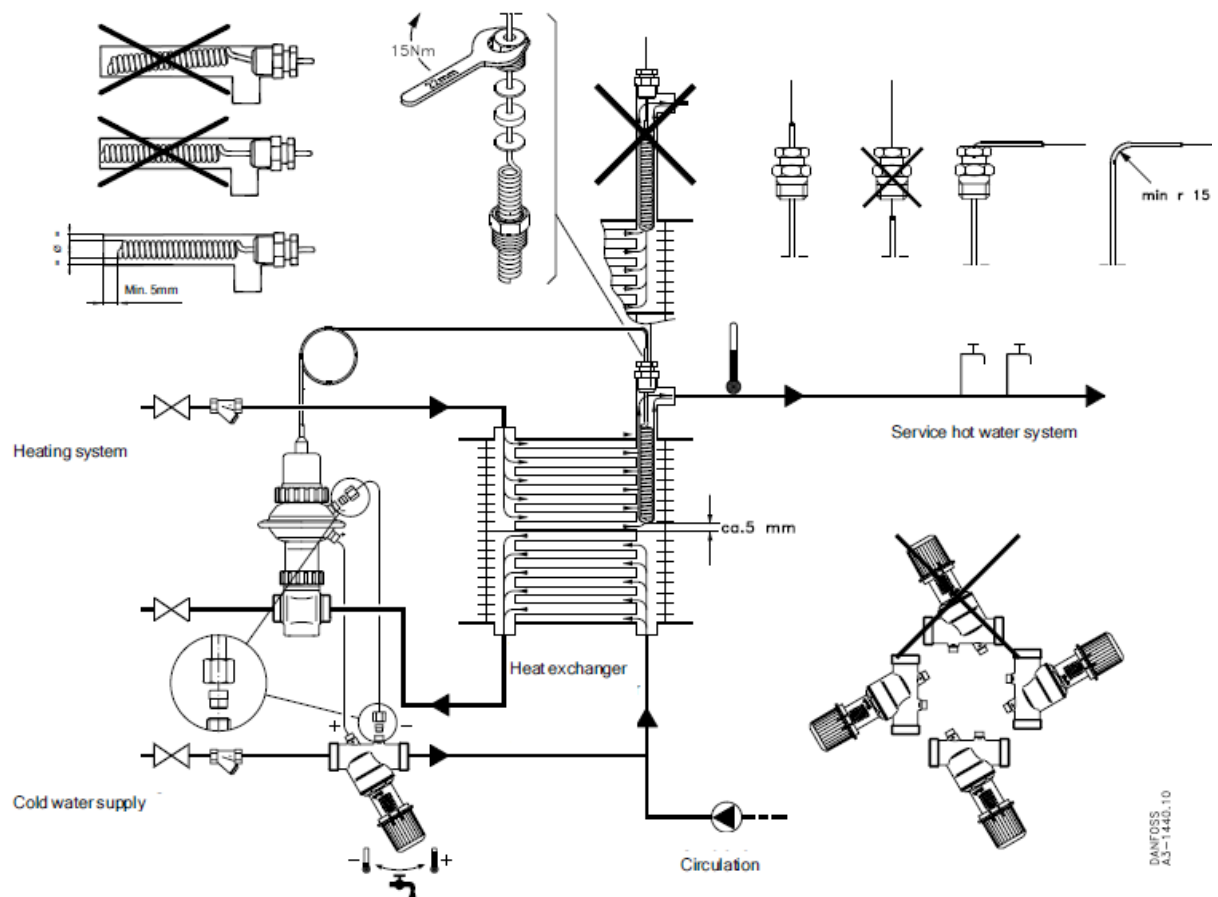
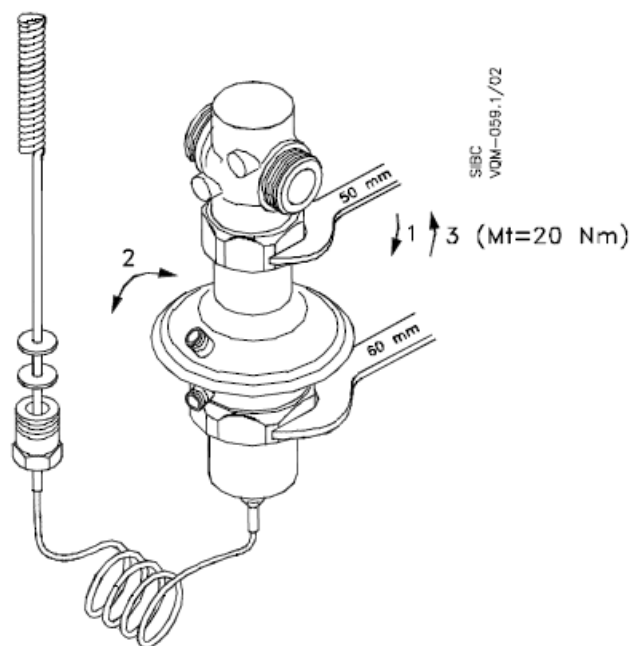

Fig. 1
Fig. 4
Systems function best when the sensor is installed right inside the heat exchanger (see fig. 1). For correct no-load function, thermal flow should be avoided as the hot water will rise and thus increase the no-load consumption. For optimum orientation of pressure connections loosen the nut (1), turn the diaphragm part into desired position (2) and tighten the nut (20 Nm) – see fig. 4.
- A: The sensor should be installed inside the heat exchanger as shown in figure 1 for optimal performance.